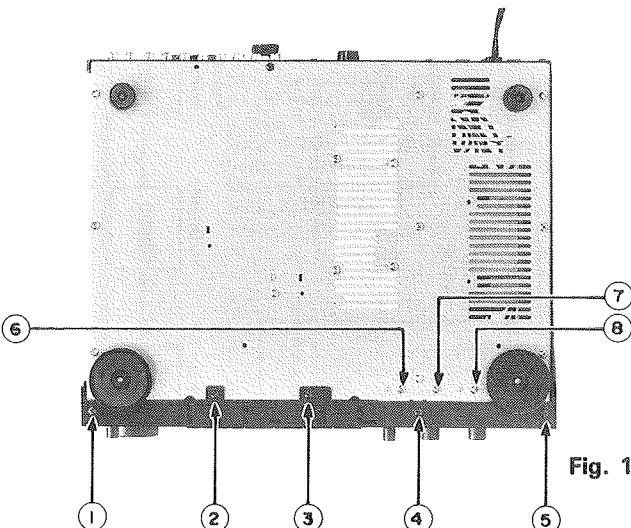

Fig. 1
2. Remove five screws ① through ⑥ securing the front panel and three screws ⑦ through ⑨ securing from the bottom plate. (See fig.1.)
(3) Removing the Main Volume